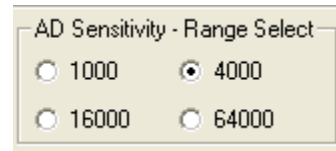

FIGURE 20.
- Sensitivity-Range Select** in Figure 20 allows us to choose the sensitivity of the sensor based on external conditions/object detection. For example, a really bright object would require a higher range (i.e., 64000), versus a dark object, which would require a low range (i.e., 1000). Higher range reduces photo detector sensitivity.